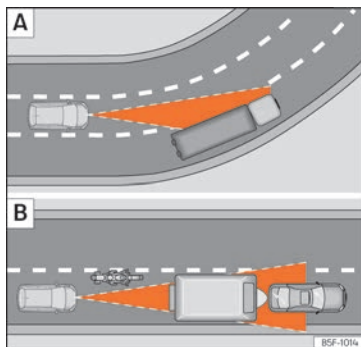

Fig. 172 [A] Vehicle on a bend. [B] Motorcyclist ahead, out of range of the radar sensor.
The ACC may not detect the vehicle in front on a curve, or may regulate the distance from vehicles in other lanes »» Fig. 172 [A].
- Vehicles that are not aligned while driving or that are outside the sensor's detection area, such as motorcycles »» Fig. 172 [B]